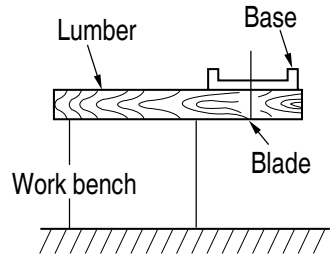

Fig. 11
14. Prepare a work bench (Fig. 11)